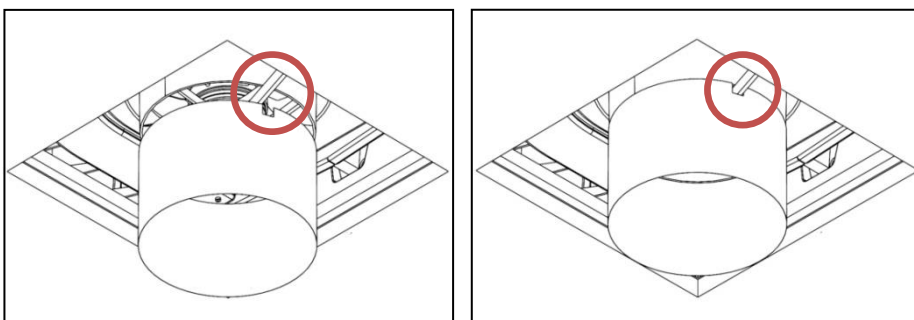

Fig 12: Highlights how the notch on the plastic duct slots over the wire from the inside fan
- Raise the brace assembly and slip the black plastic duct over the outside of the fan outlet underneath the rooftop unit. Ensure that the notch cut in the plastic ductwork aligns with the fans power cable (Fig 12).